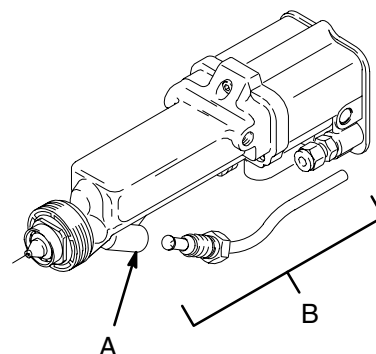
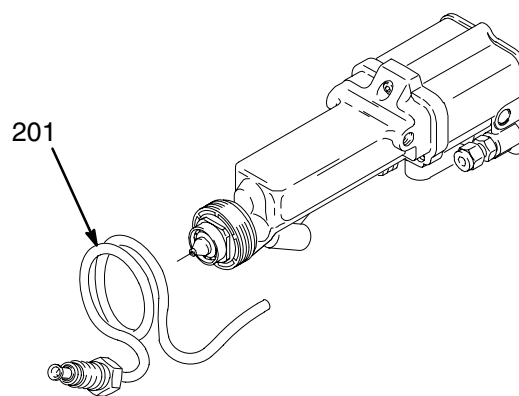

Fig. 25 04673
Fig. 26 04674
4. Remove the PRO 4600SC gun's fluid tube, fittings, and o-rings (B). See Fig. 25 .
5. Clean the barrel fluid inlet (A) with compatible solvent. Inspect the barrel fluid inlet for damage and replace if needed.
6. Slide the coils of the tube assembly (201) over the front of the gun barrel, until it is past the barrel fluid inlet (A). See Fig. 26 and 27 .